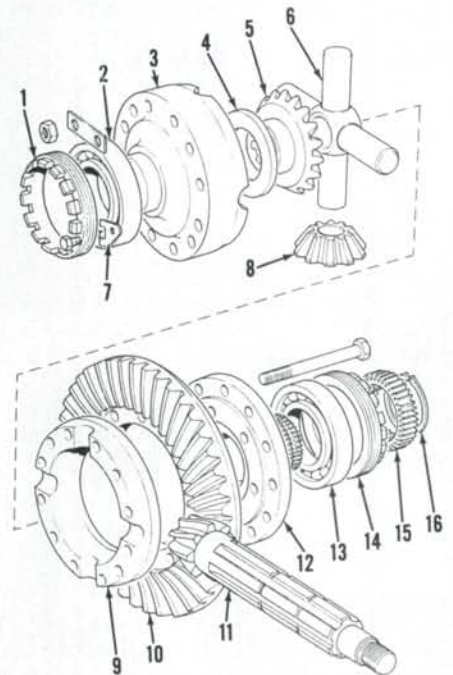

Fig. 213—Exploded view of four pinion gear differential assembly used on Models 1594 and 1690.
276. Mark positions of outer carrier half (3—Fig. 213), inner carrier half (9), pinion gear cross (6), ring gear (10) and end plate (12) for reassembly. Unbolt and remove outer carrier (3). Remove axle gear (5), pinion cross (6) and pinion gears (8), inner cage (9), ring gear (10) and remaining axle gear. Remove snap ring (16) and differential lock gear (15). Remove carrier bearings (2 and 13) if necessary.